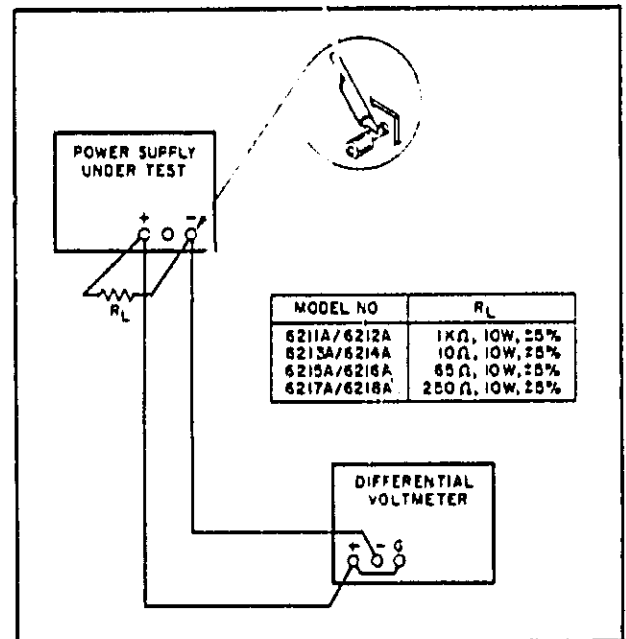

Figure 5-3. CV Load Regulation, Test Setup
- a. Connect load resistor ( $R_L$ ), indicated in Figure 5-3, across the output terminals of supply.
- a. Connect test setup as shown in Figure 5-3.
- b. Connect test setup shown in Figure 5-3.
a. Connect the load resistance, attenuator, and differential voltmeter as illustrated in Figure 5-3.